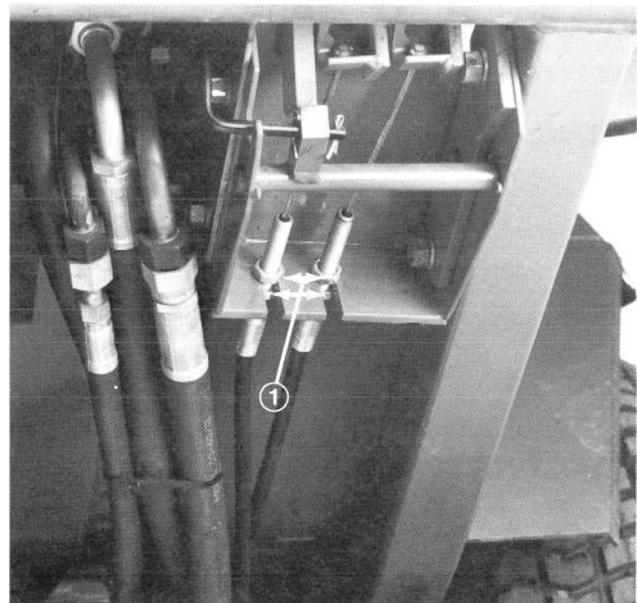

Figure 65
1. To reduce free travel of turn pedals — tighten the brakes — loosen front nut on threaded end of brake cable (Fig. 65). Then tighten rear nut to move cable backward until turn pedals have 1/2 to 1 inch (13 to 25 mm) of free travel. Tighten front nut after brakes are adjusted correctly.